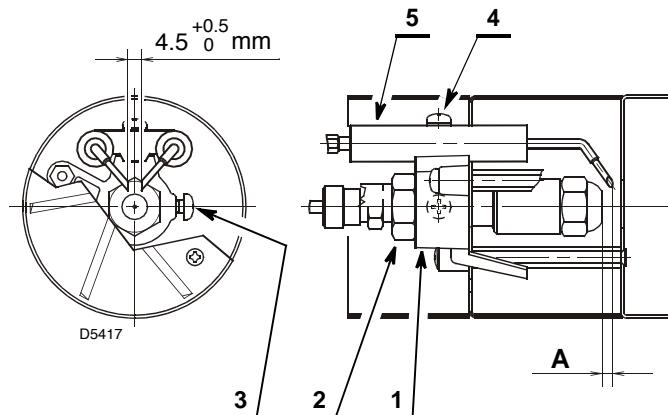

Fig. 18
- rest the diffuser disc-holder assembly 1) (Fig. 18) on the nozzle-holder 2) and block with the screw 3);
- Loosen the wires 1) from the electrodes, loosen the screw 3) (Fig. 18), and take the diffuser disc holder assembly 6) out of the nozzle-holder assembly 5).